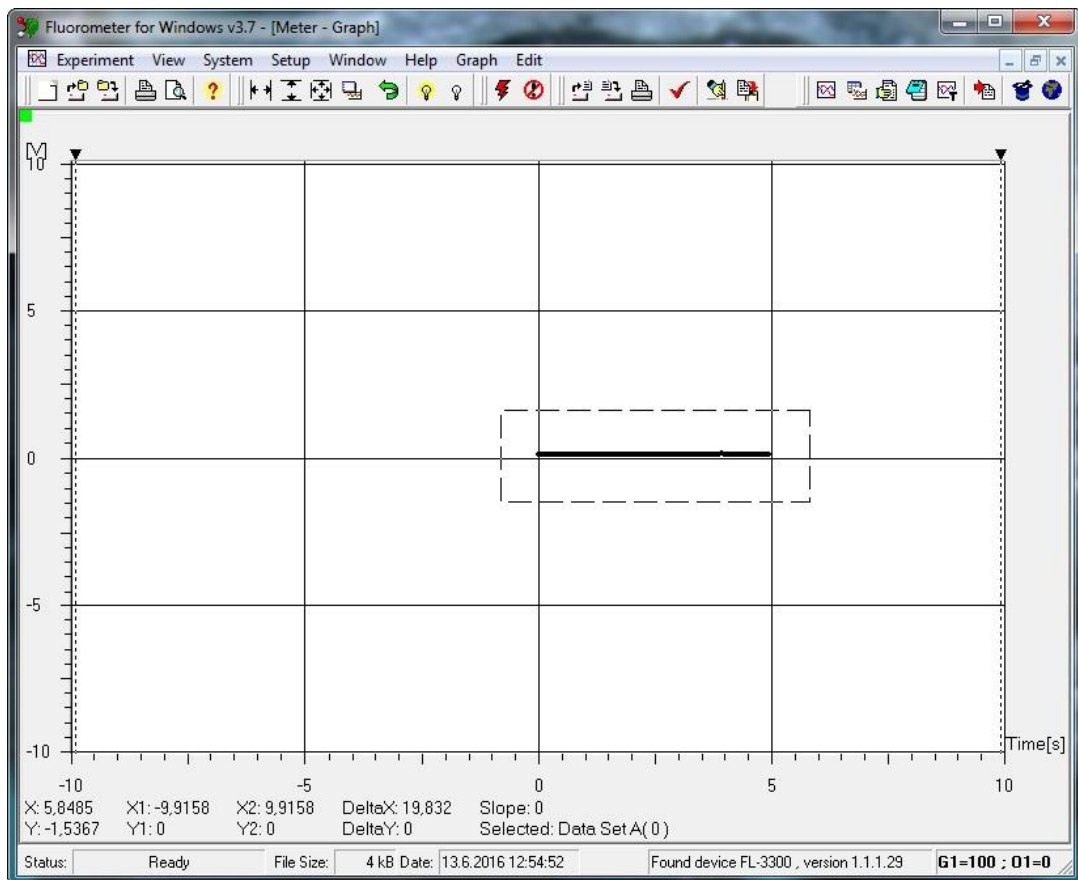

Fig. 22 Zoom in.
- To **zoom in** on the details of the graph press the left mouse button and move the cursor on the screen to define the rectangular area for zoom. Any action can be corrected by the Undo icon on the menu bar. Use left mouse button to zoom in (Fig. 22).